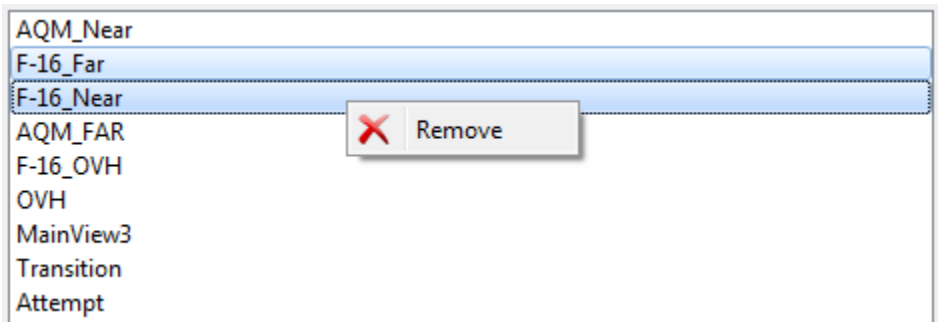

Figure 5.37: Eye Position Category Type
- You can easily remove the selected **Events** using the **✗ Remove** right-click menu, shown in Figure 5.37.
NOTE: You can easily remove the selected **Eye Positions** using the **Remove** right-click menu, shown in Figure 5.37.